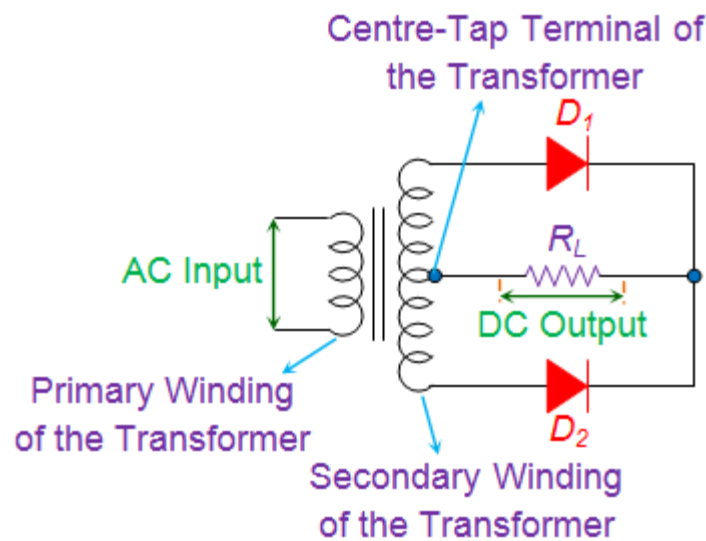

Figure 1 Full Wave Rectifier
The circuits which convert the input alternating current (AC) into direct current (DC) are referred to as rectifiers. If such rectifiers rectify both the positive as well as negative pulses of the input waveform, then they are called Full-Wave Rectifiers. Figure 1 shows such a rectifier designed using a multiple winding transformer whose secondary winding is equally divided into two parts with a provision for the connection at its central point (and thus referred to as the centre-tapped transformer), two diodes (D_1 and D_2) and a load resistor (R_L). Here the AC input is fed to the primary winding of the transformer while an arrangement of diodes and the load resistor which yields the DC output, is made across its secondary terminals.